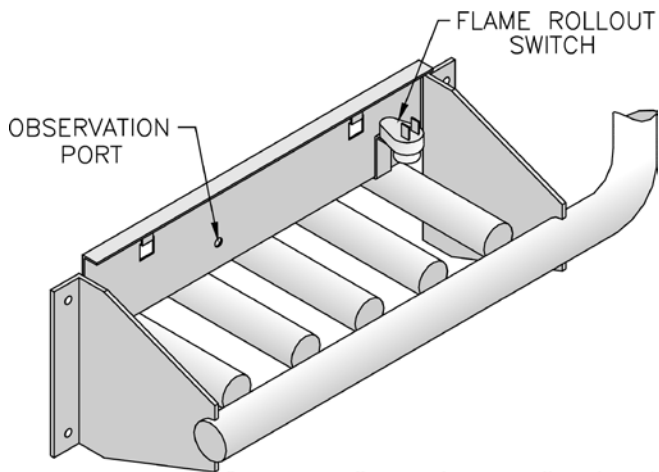

Figure 2: Flame Rollout Switch and Observation Port Location
3. **Flame Rollout Switch** See Figure 2. A device which automatically interrupts boiler operation when flames or excessive heat are present in the vestibule. The control is a single use device. If the control was activated to interrupt boiler operation, do not attempt to place boiler in operation. Contact a qualified service agency.
3. Locate Pilot Observation Port. See Figure 2.